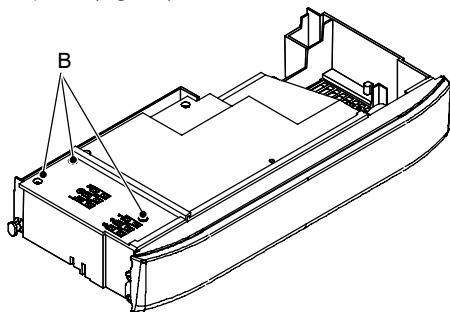

Fig. 7.6
- 2 Loosen the screws B and remove the service panel (Fig. 7.6).